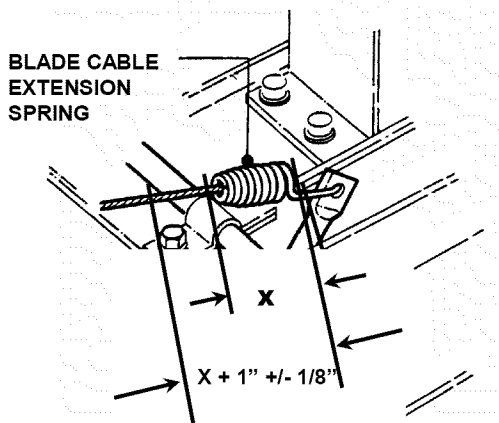

FIGURE 4.3
7. Measure blade cable extension spring. The length of the spring (x) should increase by 1" (+/-1/8"). See Figure 4.3.
10. Measure extension spring with blade engagement lever in the "ON" and "OFF" positions. See Figure 4.3. Continue adjustment until tension is correct.